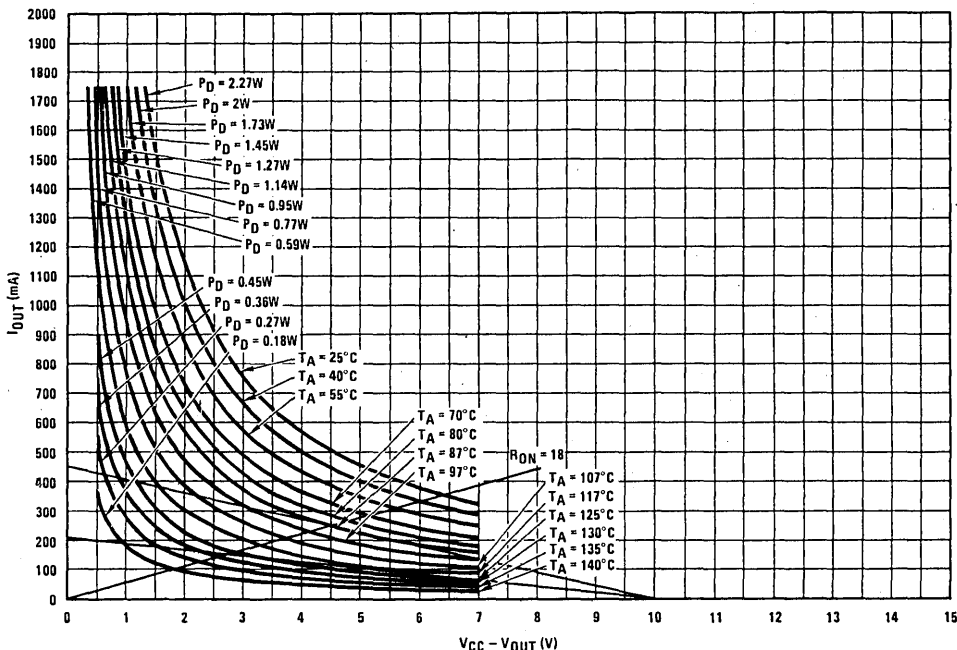

FIGURE 11
- In Figure 11, draw the load line intersecting $R_{ON} = 18\Omega$ at $I_{OUT} = 250 \text{ mA}$.